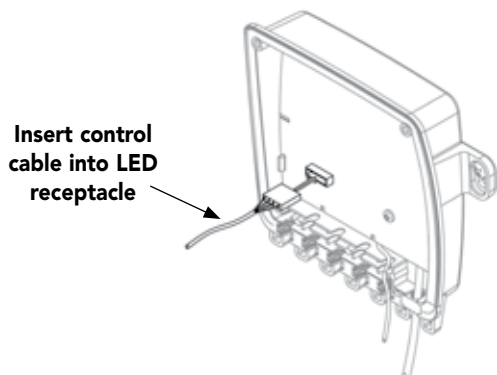

Figure 17
2. Insert the free end of the control cable into the control box's LED receptacle (**Figure 17**).